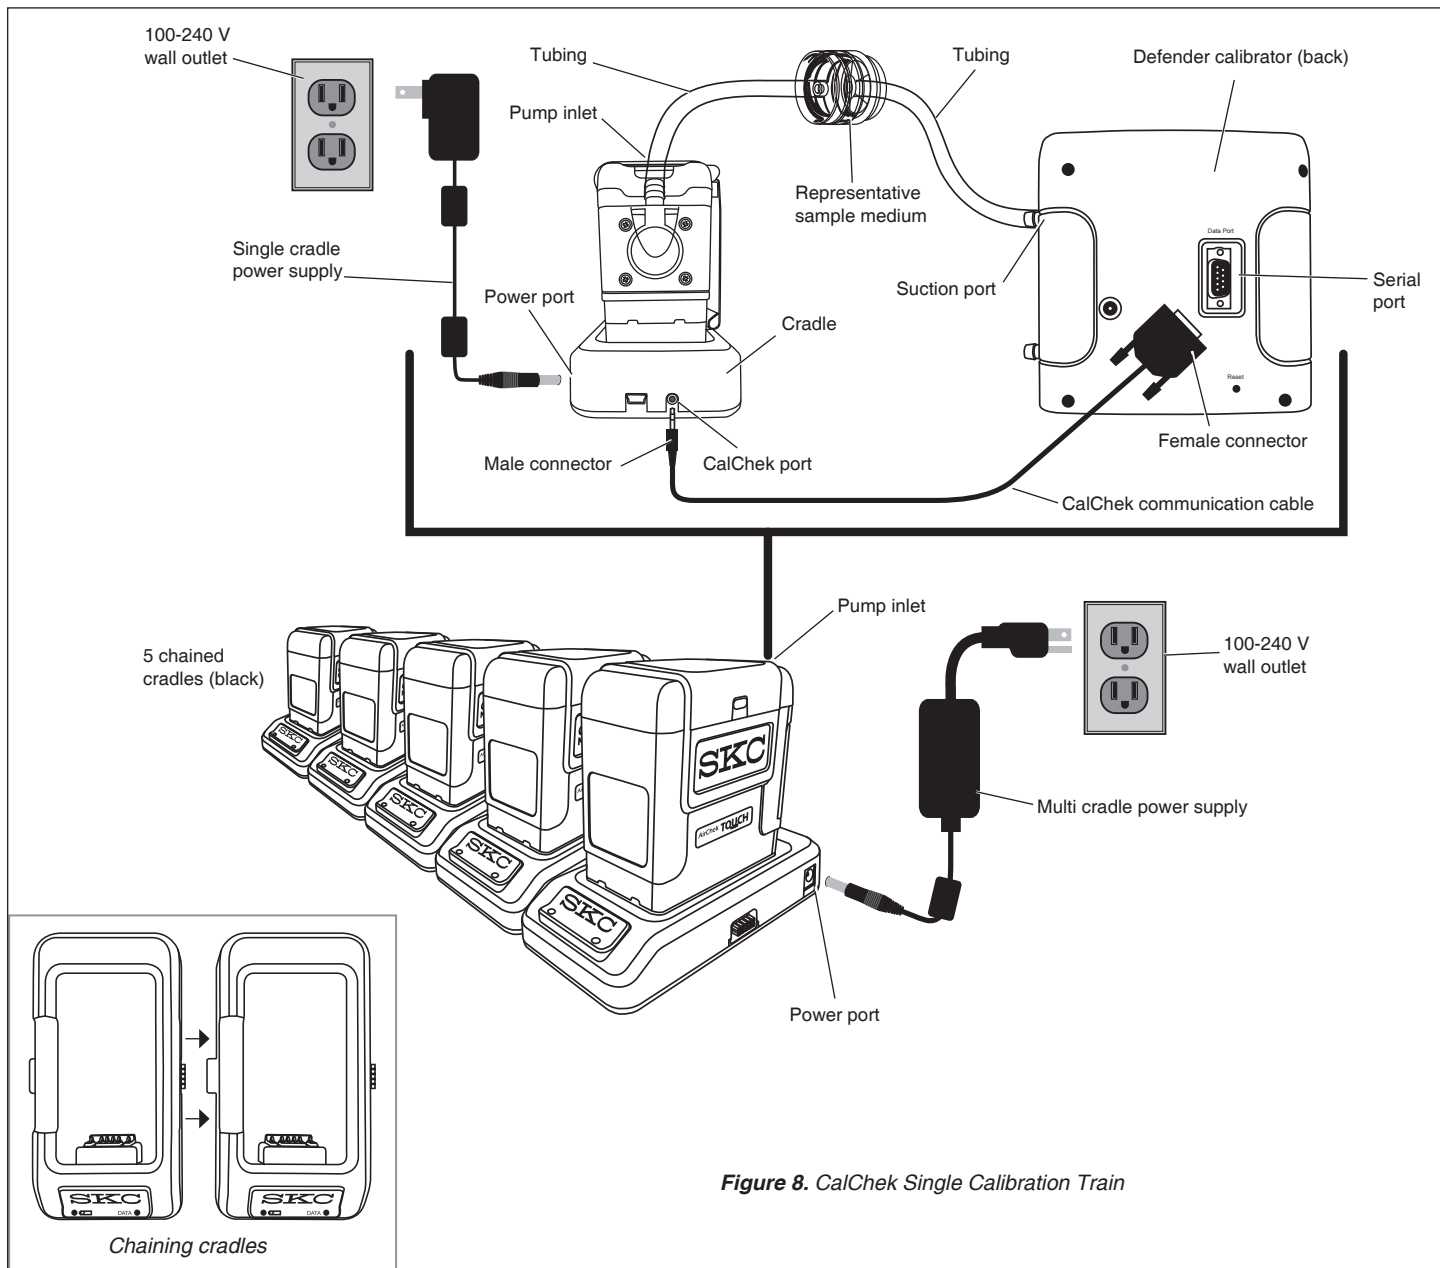

Figure 8. CalChek Single Calibration Train
4. Ensure calibration train is in place (see Figure 8). Touch checkmark to accept CalChek selection.